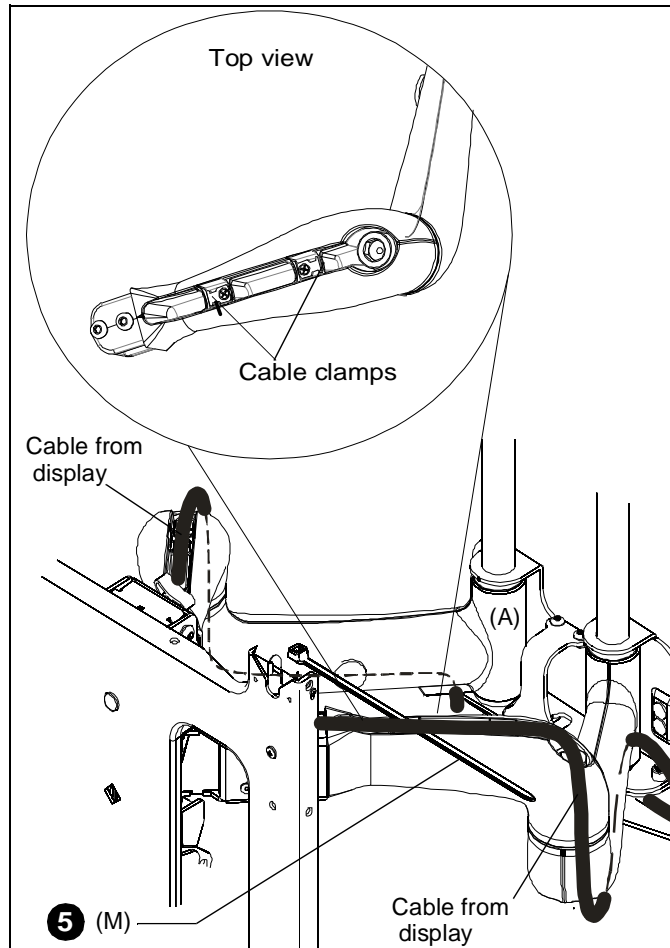

Figure 6
3. Thread cable ties (M) under cable clamps in mount arms. (See Figure 6)
4. Route power/audio/video cables through the cable channel in top arm (See Figure 6), allowing sufficient slack in cables for left/right movement of display and swing arm and also swing arm extension and retraction.
5. Secure cables to top arm using two cable ties (M).